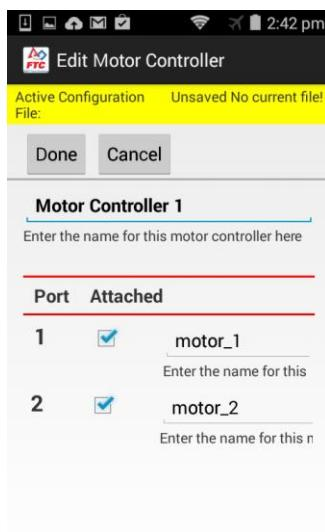

Figure 103 - Configuring the Motor Controller.
In Figure 103 (see below) the motor controller has two motor channels active (1 and 2). The names of each channel are "motor\_1" and "motor\_2" respectively. Note that the names you assign for devices (including motors, servos, sensors, and even the hardware module itself) are important because later on when you want to write a custom "op mode" to control your robot, you will need to refer to these names within your program in order to access these devices on your robot.
**Important note!** The names of the devices that you assign in the edit screens are very important. The Robot Controller app will use these names as references to the corresponding devices. When you create your own Op Mode to run on your robot, your Java code will have to refer to these device names in order to be able to find and control these devices with your Java code. In our example, if you want to be able to control the first motor configured in Figure 103 then your Java code will need to refer to it by its name ("motor\_1").